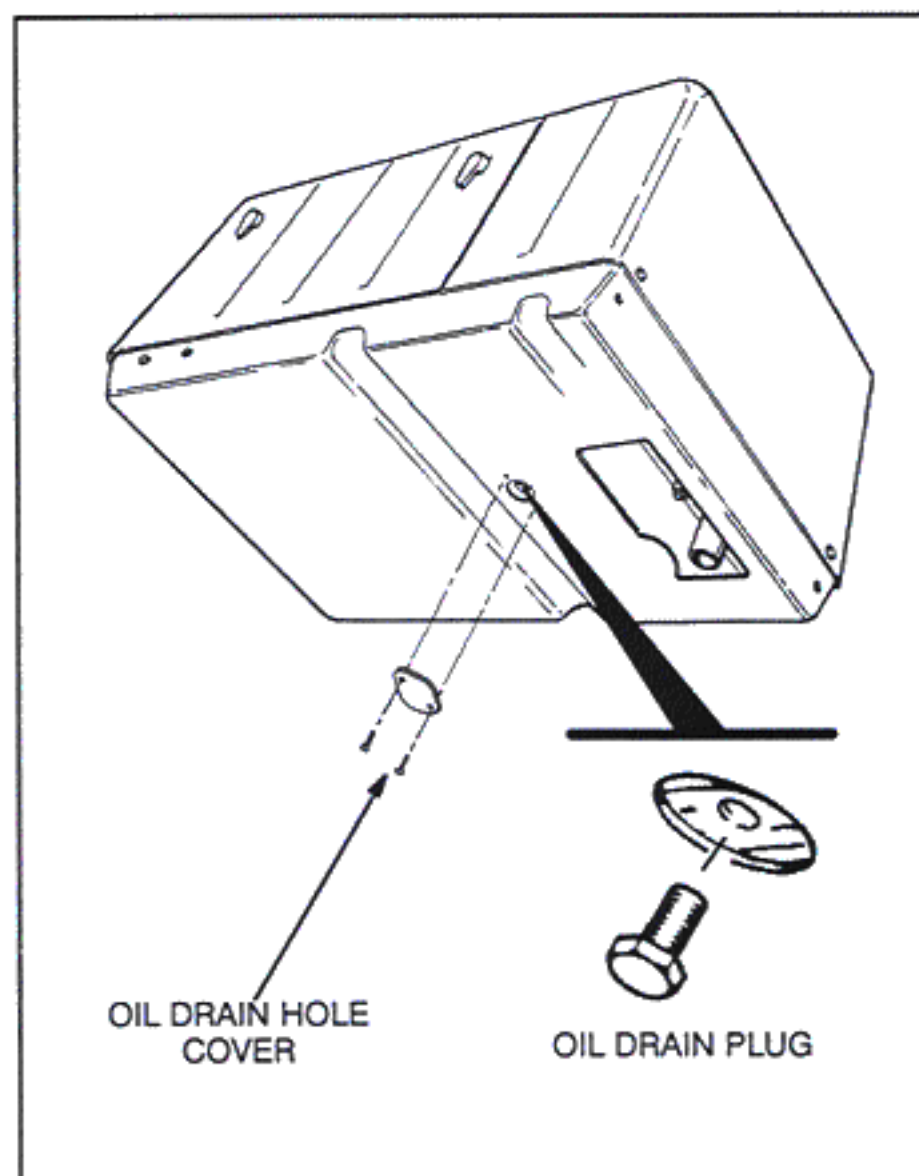

FIGURE 10. OIL DRAIN PLUG
2. Remove the oil drain hole cover in the base, place a pan underneath and unscrew the plug (Figure 10). Let all oil drain from the engine and then secure the drain plug. Torque the plug to 21 lbs-ft (27 N-m) and secure the cover.